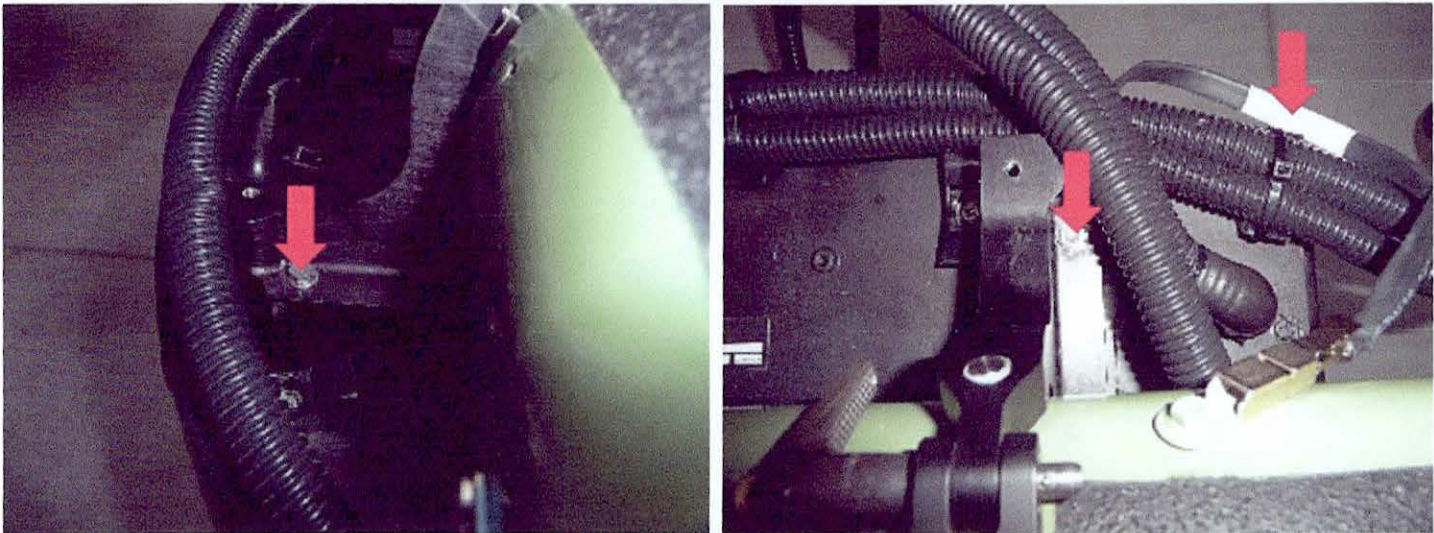

FIGURE 4: DART BRACKETS AND BONDING STRAP INSTALLATION
8. Install Dart brackets on to the Trakka Box per Figure 4 using EN3308H050054F Bolts and LN9016-05L washers that were retained at Step 3. Torque fasteners to 3-4 N m. Re-apply finish protection to the bolt heads (WL 5.7054 RAL 9005 paint + WL 5.7052 hardener + WL 5.7059 thinner).
9. Re-install bonding strap with the aft bracket using EN3820-050050F Bolt and LN9016-05L washer as shown in Figure 4. Torque fastener to 3-4 N m. Re-apply surface protection to the strap attachment and bolt head (Celomer 4125/6407 blue + Celomer 0613/9000 hardener + Celomer 0580/9000 thinner). Apply finish protection (WL 5.7054 RAL 9005 paint + WL 5.7052 hardener + WL 5.7059 thinner).